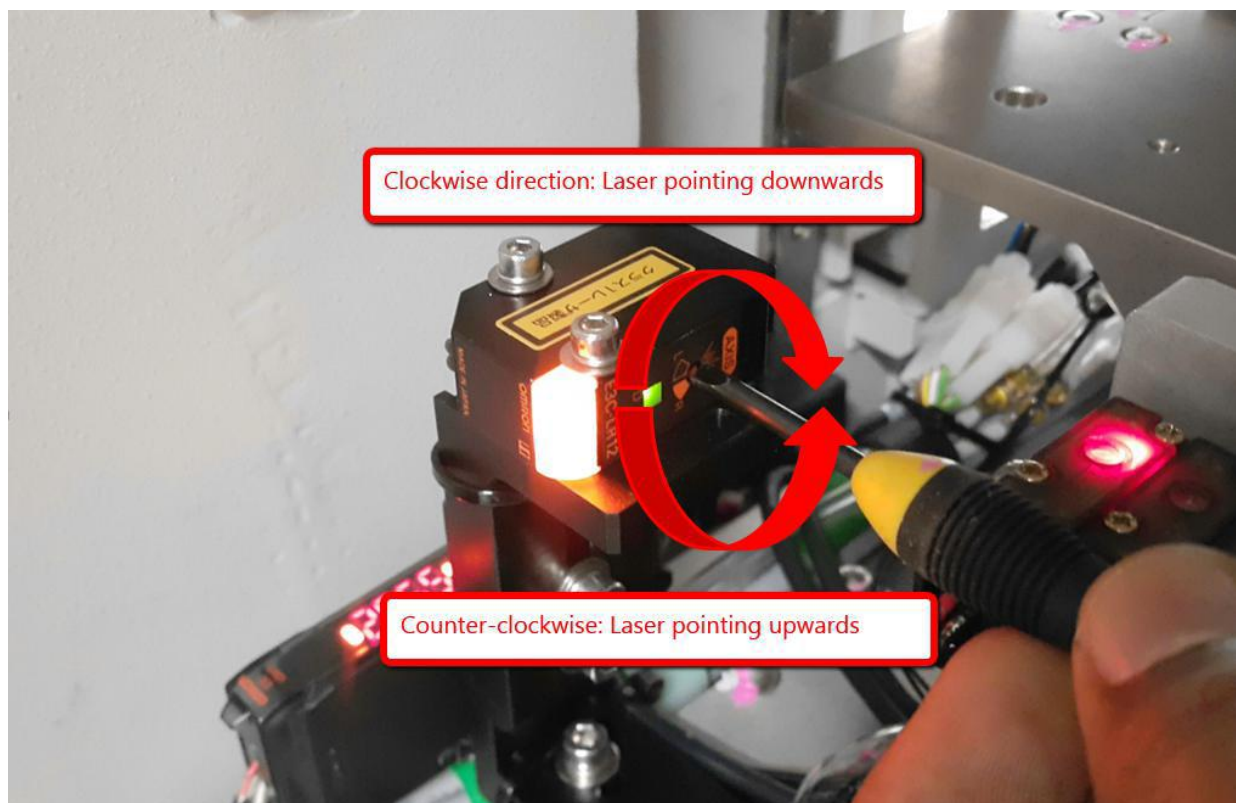

Figure 15 Filter Height Sensor Angle Adjustment
- b) Adjust the sensor angle by using the precision tool as Figure 15